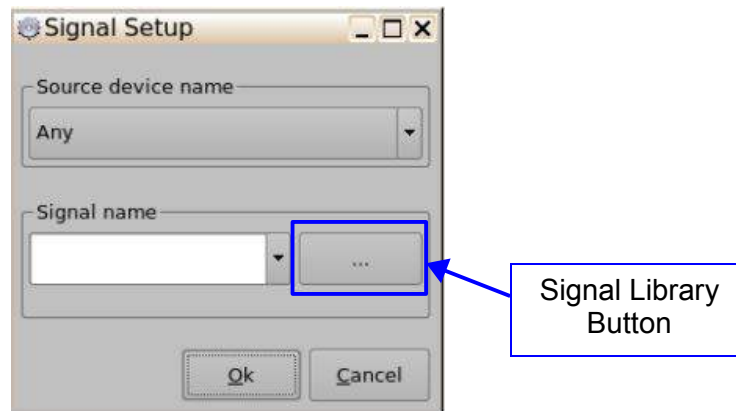

Figure 31: Signal Setup Window
- The Signal Setup window will be prompted (Figure 31).